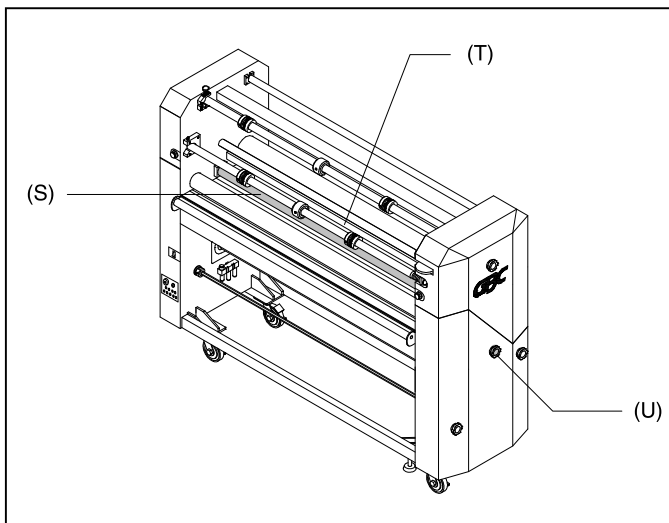

Fig. 18
S. CHILL IDLER: (Figure 18) Assist in the cooling process of the web material as it exits the heat rollers.
T. COOLING FANS: (Figure 18) Assist in the cooling process by pushing unheated air onto the web material as it exits the heated rollers. This feature can be controlled from the control panel.
U. CLUTCH: (Figure 18) Used to increase or decrease pull roller clutch tension. Clockwise rotation increase while counterclockwise rotation decreases clutch tension.